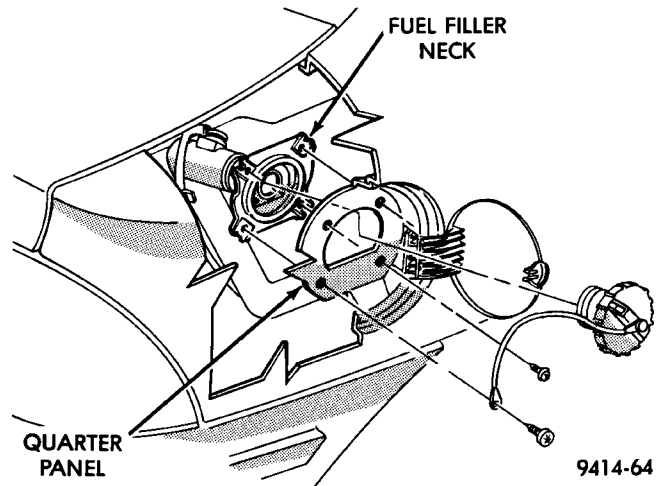

Fig. 34 Fuel Filler Neck
- (1) Loosen fuel filler tube cap.
- (2) Remove fuel filler neck screws (Fig. 34).
- (3) Disconnect fuel fill vapor tube.